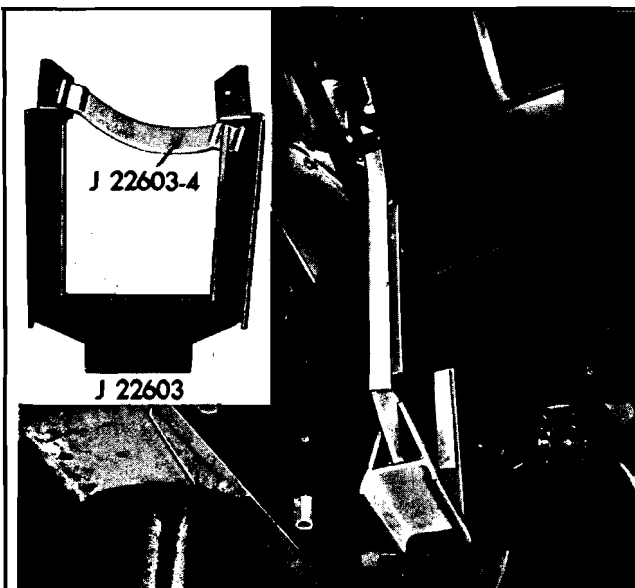

Fig. 6-75 Engine Lifting Tool Installed - Pontiac and Tempest
1. Raise hood and, using J 22603 engine lifting tool, (Fig. 6-75), take weight of engine off front insulators.
1. Raise hood and, using J 22603 engine lifting tool, Fig. 6-75, take weight of engine off front insulators.